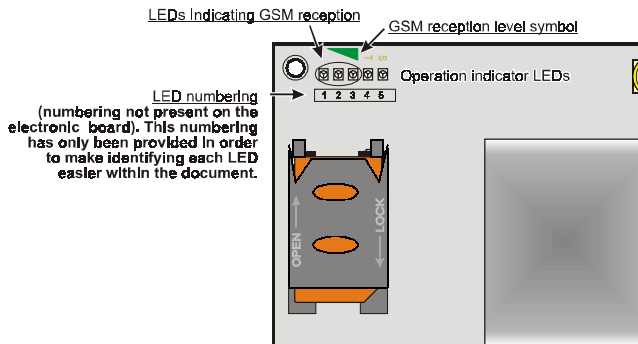

Fig. 4 - Operation indicator LEDs
There are 5 LEDs on the PCB: three green LEDs (1, 2 and 3), one yellow LED (4) and one red LED (5). These indicate connection, transmission and malfunctioning statuses (see Figure 4).
**GREEN** — The three green LEDs (1, 2 e 3) indicate the strength of the GSM signal, as shown in Figure 4:
**The first LED (1)** near the fixing hole. If this LED is OFF, the GSM Network service is unavailable (**NO SERVICE**). If this LED is ON, the GSM Network reception is weak but sufficient to manage all telephone communications.
**The second LED (2).** When this LED is ON, the reception is good. This LED will switch ON only when the first GREEN LED is ON.
**The third LED (3).** When this LED is ON, indicates excellent GSM signal strength; it only illuminates when the first and second LEDs are already ON.